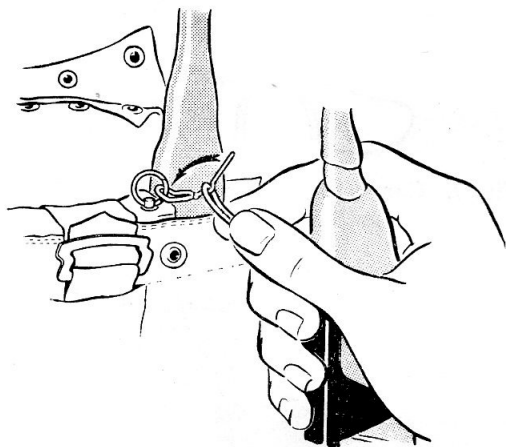

Fig. 10. Connecting the beacon to the battery switch pin—4th stage
(5) Place the loop at the end of the cord over the beacon switch release pin as illustrated in fig. 10, and position the pin as shown by the arrow so that it retains the loop of cord.